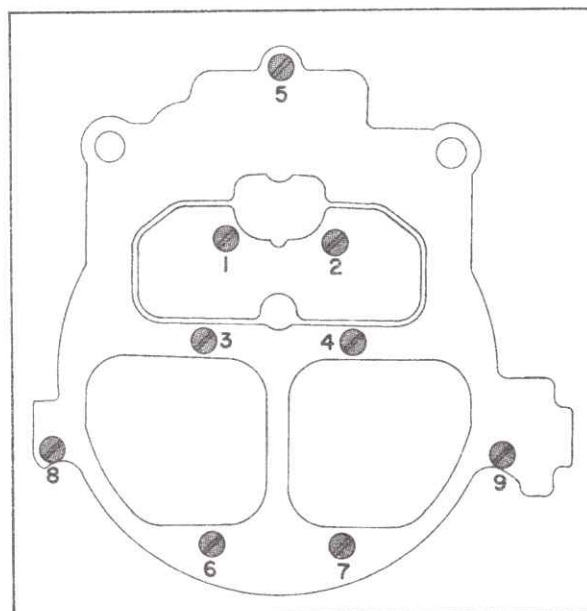

Fig. 6-93 Air Horn Screw Tightening Sequence
2. Install two long air horn screws, five short screws and two countersunk screws in primary venturi area. To prevent binding of choke valve or air valve due to distortion of air horn, all screws must be tightened evenly using the sequence shown in Fig. 6-93.